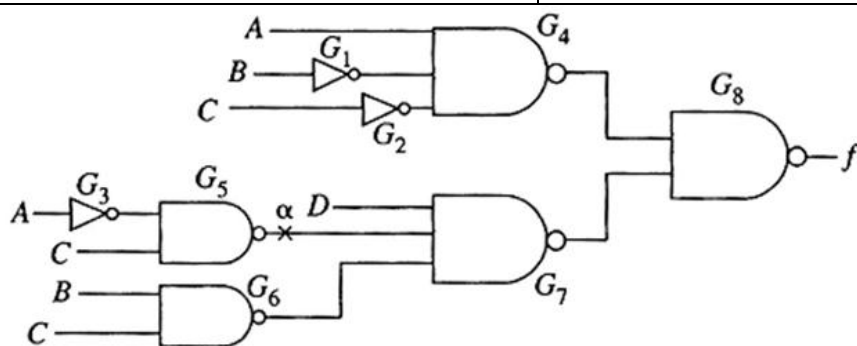

FIG. 4B
- 4B. Find the test vector to detect the fault SA1 at node  $\alpha$  for the circuit in **FIG. 4B** by path sensitization method.